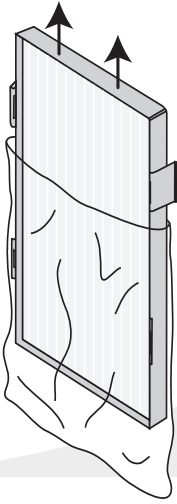

FIG. 8
3. **Remove** the HEPA filter from its plastic bag (Fig. 8).